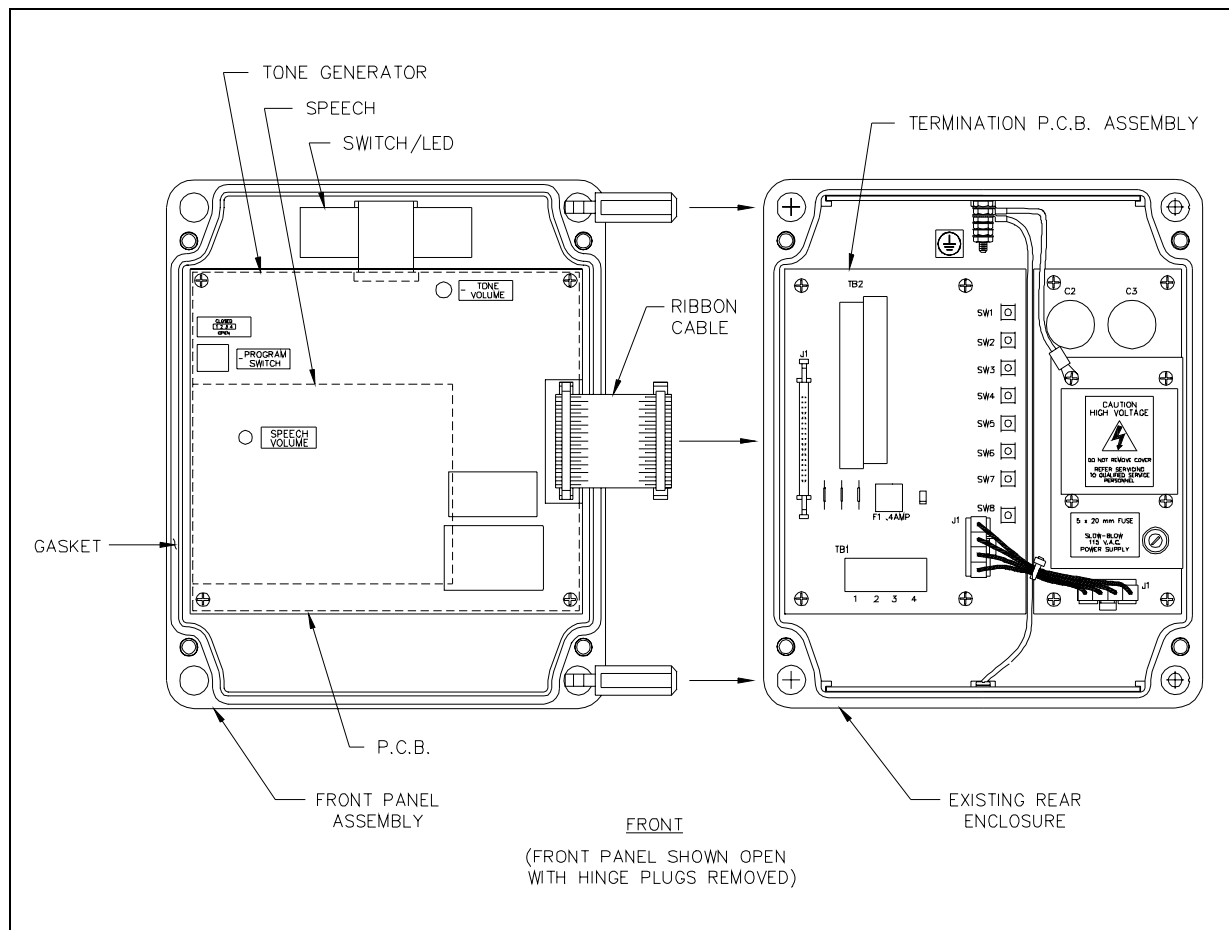

Figure 1. Front Cover Assembly
3. Swing the cover open and remove the ribbon cable from J1 on the 69105-004 Termination PCBA. To remove the ribbon cable from J1, push the latch eject levers on each side of the connector. Refer to Figure 1.